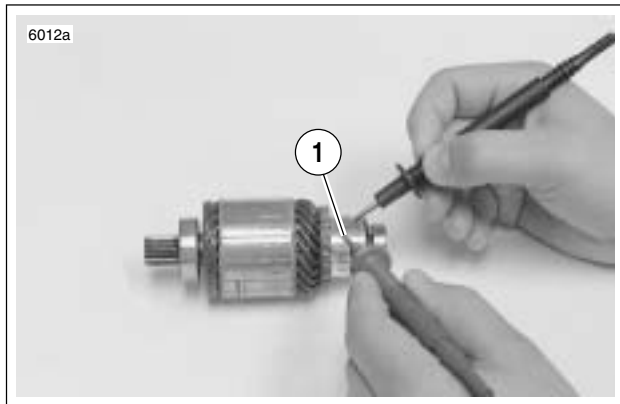

Figure 5-21. Open Armature Test
11. See Figure 5-21. Check for OPEN ARMATURE with an ohmmeter or continuity tester.
- a. Check for continuity between all commutator segments (1).